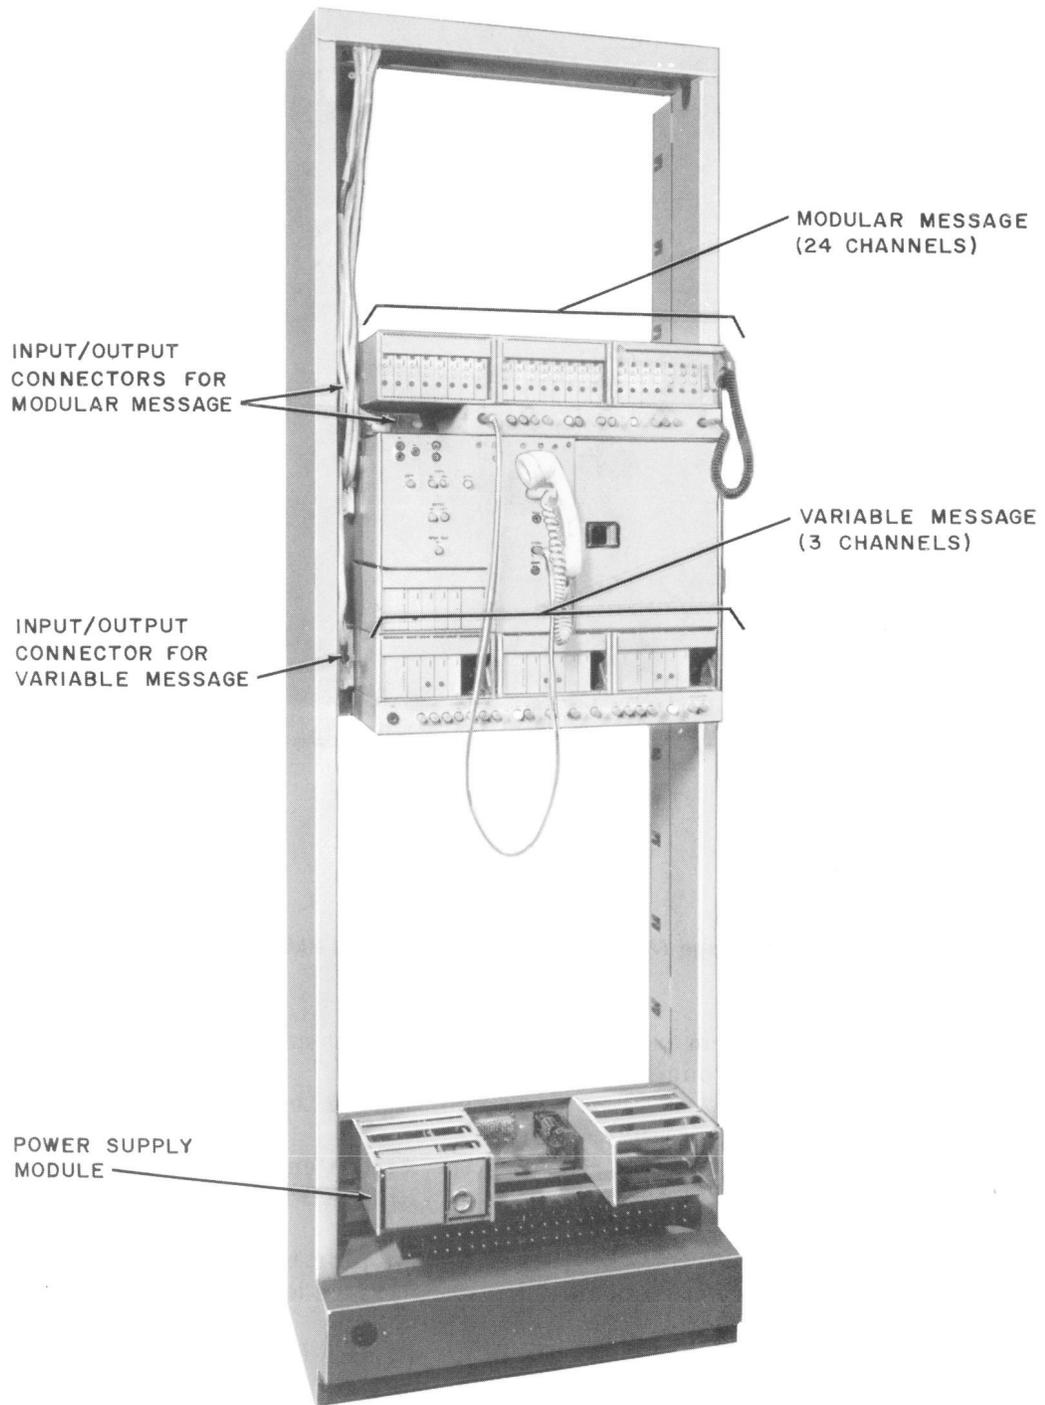

Fig. 1—Typical Common Systems Recorded Announcement Frame
1.01 This section describes the method of operation of the Common Systems Recorded Announcement Frame (CSRAF) (Fig. 1). The CSRAF can be arranged to provide four basic types of recorded announcements:
- Modular Message (MM) announcement
- Phased Message (PM) announcement
3.01 Start-up: To start up the CSRAF (Fig. 1), proceed as follows.
3.02 Shutdown: To shut down the CSRAF (Fig. 1), proceed as follows.